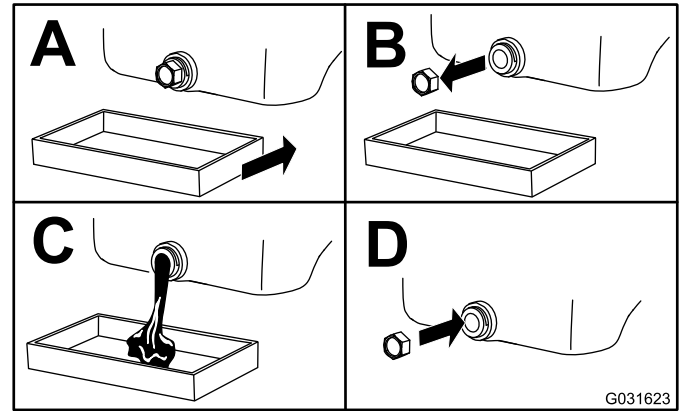

Figure 86
5. Change the engine oil as shown in Figure 86.